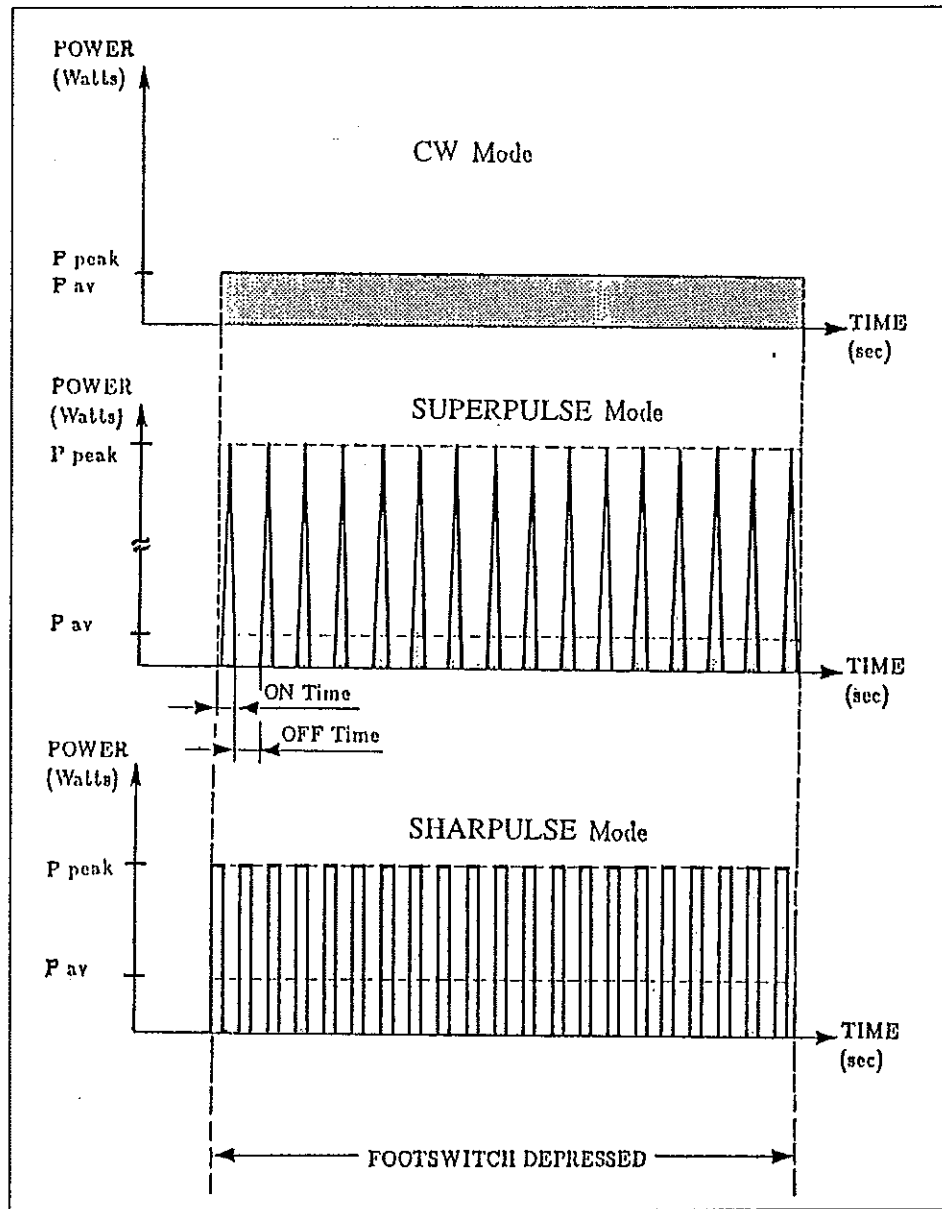

Figure 3-4. Laser Operation Modes
The laser operation modes are CONTINUOUS WAVE (CW), SUPERPULSE and SHARPULSE (see Figure 3-4).
Figure 3-4 illustrates the different power versus time patterns generated for each of the laser operation modes. Note that although the average power can be identical in all three laser operation modes, the peak power, ON time and OFF time differ. The treated tissue reflects these differences in terms of incision/ablation effects, and of thermal conduction to adjacent tissue.
In Figure 3-4, "ON time" and "OFF time" refer only to the laser operation mode.